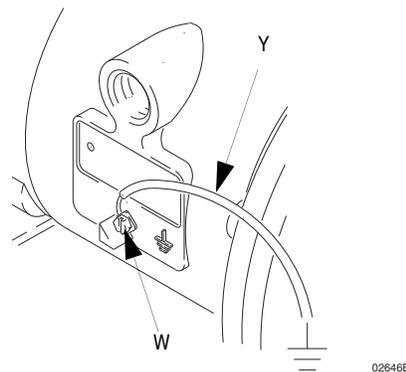

FIG. 1
- *Pump:* Connect a ground wire and clamp as shown in FIG. 1. Loosen the grounding screw (W). Insert one end of a 12 ga (1.5 mm²) minimum ground wire (Y) behind the grounding screw and tighten the screw securely. Connect the clamp end of the ground wire to a true earth ground. Order Part No. 238909 Ground Wire and Clamp.